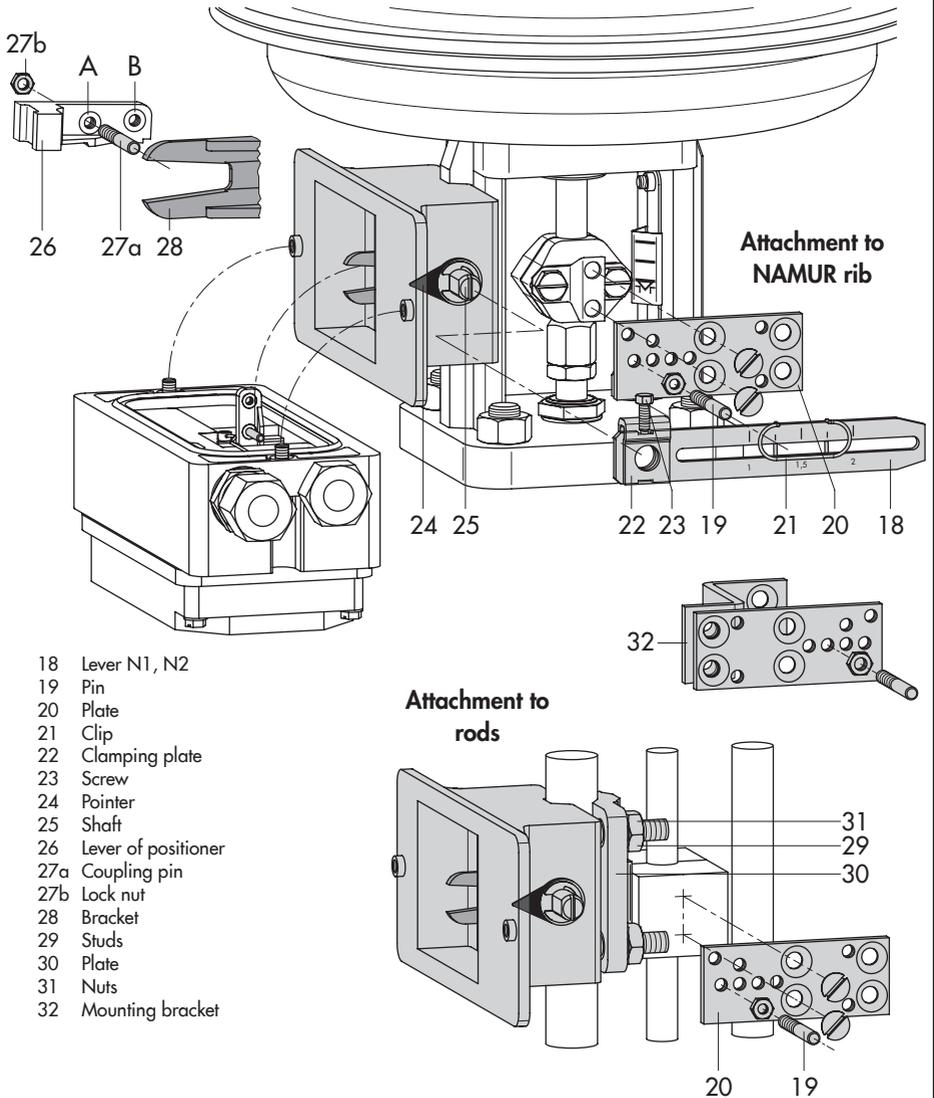

Fig. 6: Attachment according to IEC 60534-6 (NAMUR)
An adapter housing is used for attachment (Fig. 6). The valve travel is transmitted by the lever (18) and the shaft (25) to the bracket (28) of the adapter housing and then passed on to the pin (27a) on the lever of the positioner. To ensure that the pin (27a) is properly located in the bracket (28), fix the spring included in the accessories at the back of the positioner housing as illustrated in Fig. 4.
The positioner can be mounted either on the left or right side of the control valve (Fig. 5 and Fig. 6). Turn the positioner at the adapter housing by 180° to determine or change the operating direction of the positioner/control valve unit.
Mounting position on the plate looking onto the travel pick-off (20), actuator facing upward (see also Fig. 6)
➔ Mounting parts and range spring: see Table 4/Table 5; mounting according to Fig. 6.
2. Move the shaft (25) in the adapter housing so that the black pointer (24) matches the cast marking on the adapter housing.
3. Fasten the clamping plate (22) in this position using the screw (23).
4. Screw the pin (27a) into the positioner lever on the side where the press nut is located. Lock it in position with the hex nut on the other side, observing the mounting position **A** or **B** according to Table 6 and Fig. 6.
5. Place the positioner on the adapter housing, taking into account the mounting direction. Fasten it, making sure that the pin (27a) rests against the bracket (28). The pin must not slip out of the bracket once installed.